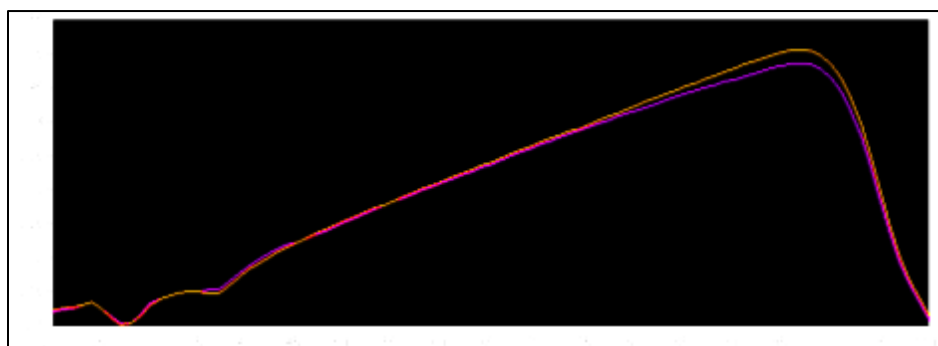

Figure 85: Detector Spectral Responsivity Changes
- Determine if the calibrated detector requires recalibration. Spectral responsivity changes over time, particularly when the detector is subjected to UV light. The spectral responsivity plot in Figure 85 is of the exact same detector, with calibration data taken five years apart. Newport suggests annual recalibration of detectors.